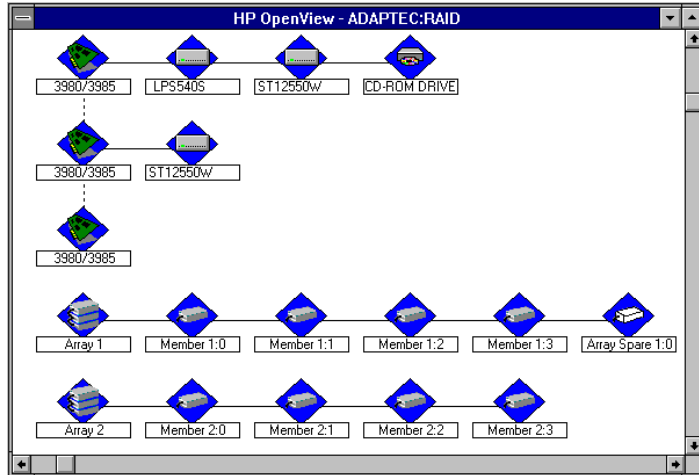

Figure 12-30. Viewing Array Information
- View and create maps of SCSI subsystems, including arrays, as illustrated in Figure 12-30.